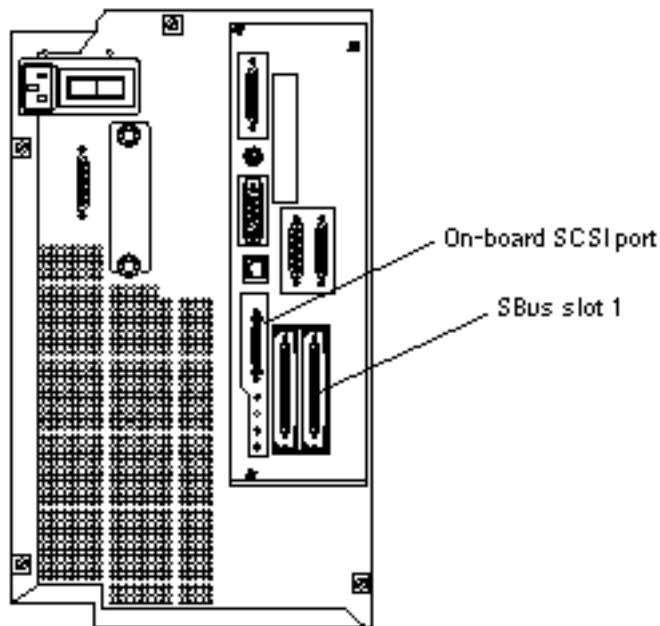

Figure 1-4 Connecting External Peripherals to the Netra 150 Server
- If you are connecting an external peripheral to the Netra Internet version of the Netra 150 server, connect the SCSI cable from the external peripheral to the on-board SCSI port at the rear of the Netra 150 server (Figure 1-4). Note that the internal floppy, tape and CD-ROM drives take SCSI addresses 0, 4 and 6, respectively, so you must verify that none of the drives in the external peripheral use those SCSI addresses.
- If you are connecting an external *tape* enclosure to the Netra NFS version of the Netra 150 server, connect the SCSI cable from the external tape enclosure to the on-board SCSI port at the rear of the Netra 150 server (Figure 1-4).
- If you are connecting an external *disk* enclosure to the Netra NFS version of the Netra 150 server, connect the SCSI cable from the external disk enclosure to the Fast-Wide SCSI card installed in SBus slot 1 at the rear of the Netra 150 server (Figure 1-4). If you do not have a Fast-Wide SCSI card installed in SBus slot 1, follow the instructions in “Installing an SBus Card” on page 55 to install a Fast-Wide SCSI card in SBus slot 1, then return here. Do *not* connect the external disk enclosure to any SCSI port other than the Fast-Wide SCSI card installed in SBus slot 1.